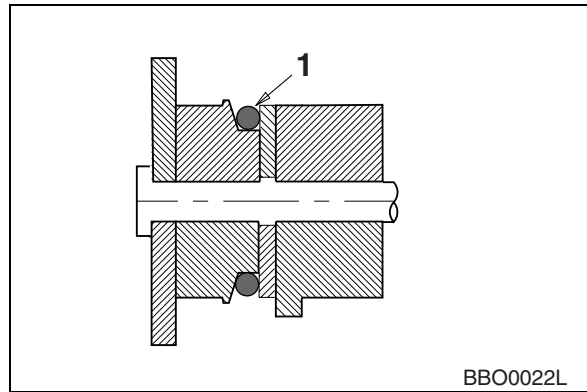

Figure 86
5. Roll new O-ring (1, Figure 86) into O-ring groove.